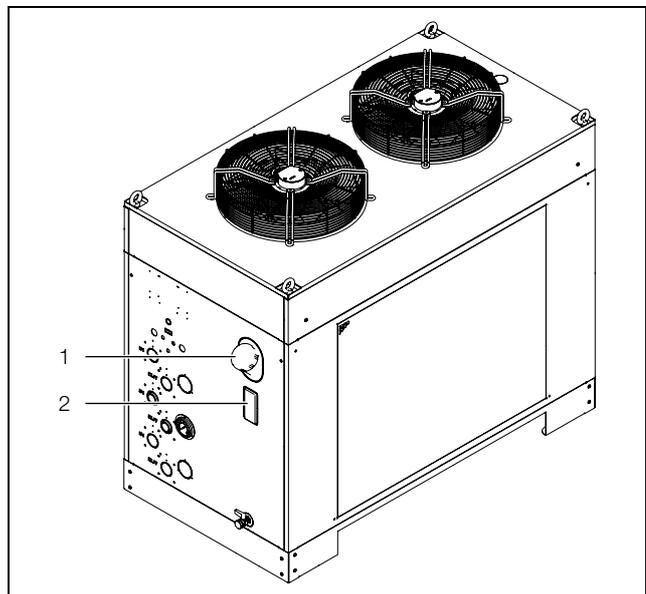

Fig. 16: Filling the cooling medium
- Fill the chiller tank with cooling medium via the fill nozzle (fig. 16, item 1).
- Check the filling level on the container through the opening in the casing (fig. 16, item 2).